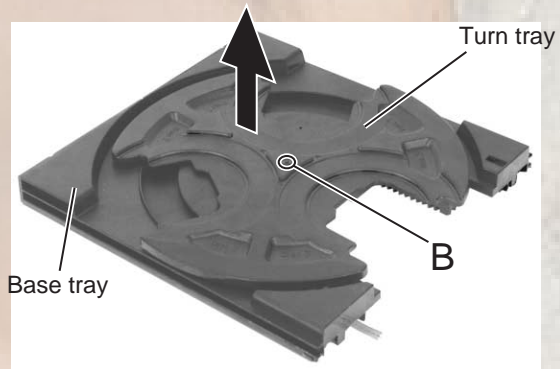

Fig.6
**Removing the turn tray motor (See Fig.6 and 7)**